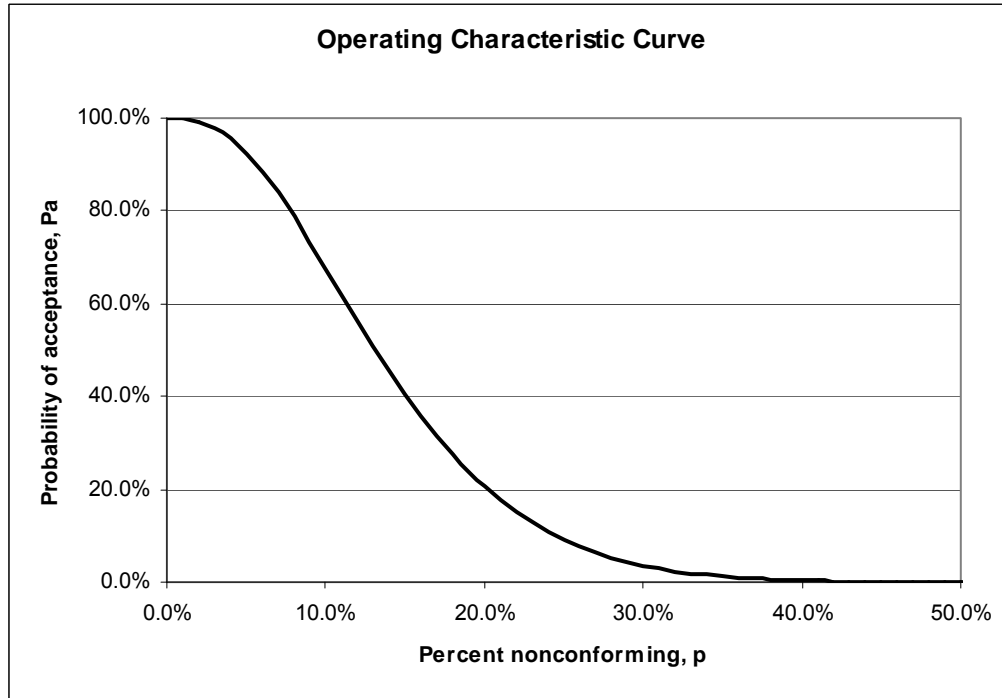

Figure 1 Typical Operating Characteristic (OC) Curve
The Operating Characteristic (OC) curve describes the probability of accepting a lot as a function of the lot's quality. Figure 1 shows a typical OC Curve.
The first thing to notice about the OC curve in Figure 1 is the shape; the curve is not a straight line. Notice the roughly "S" shape. As the lot percent nonconforming increases, the probability of acceptance decreases, just as you would expect.